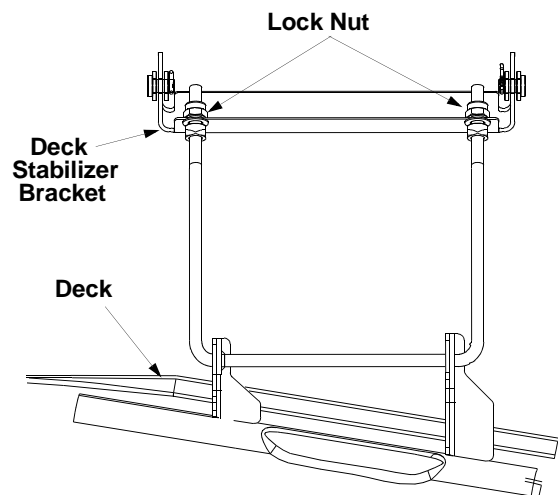

Figure 8
3. Locate the two lock nuts on the opposite side of the stabilizer bracket. See Figure 8. Tighten the lock nuts to raise the front of the deck; loosen the lock nuts to lower the front of the deck.